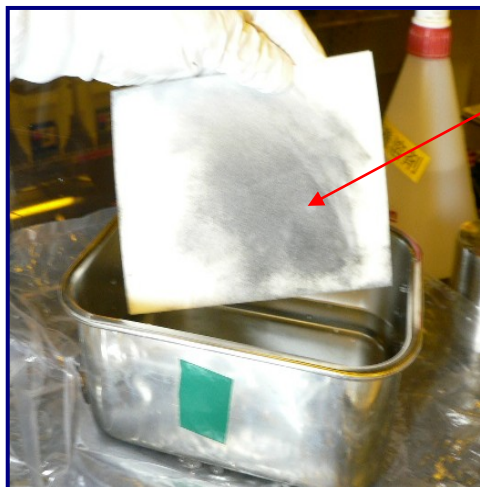

Fig 17: UltraSOLV® Sponge loaded with deposition
Step 13: Continue to rinse UltraSOLV® Sponge with DI water as sponge begins to load up with deposition (See Fig 17 & 18)